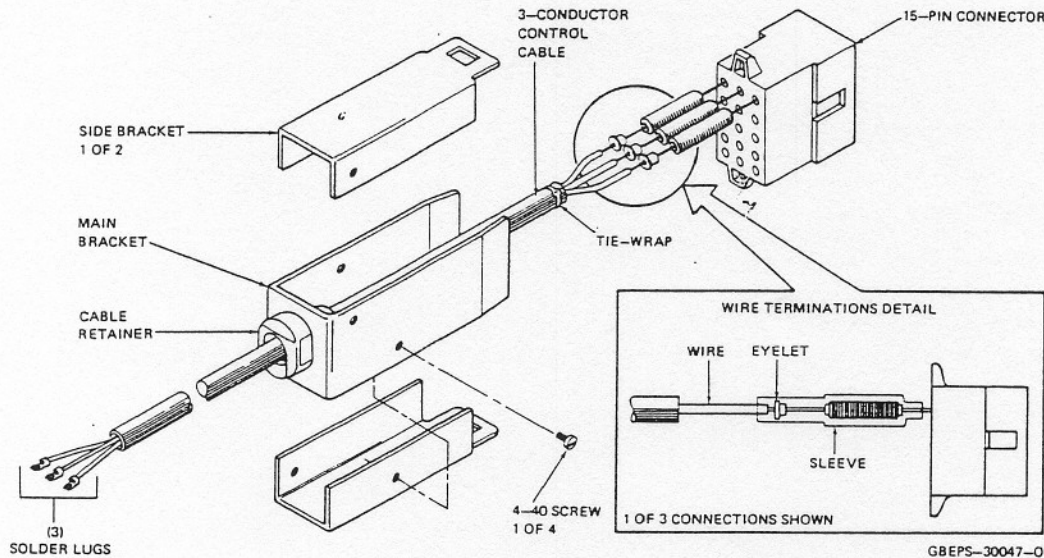
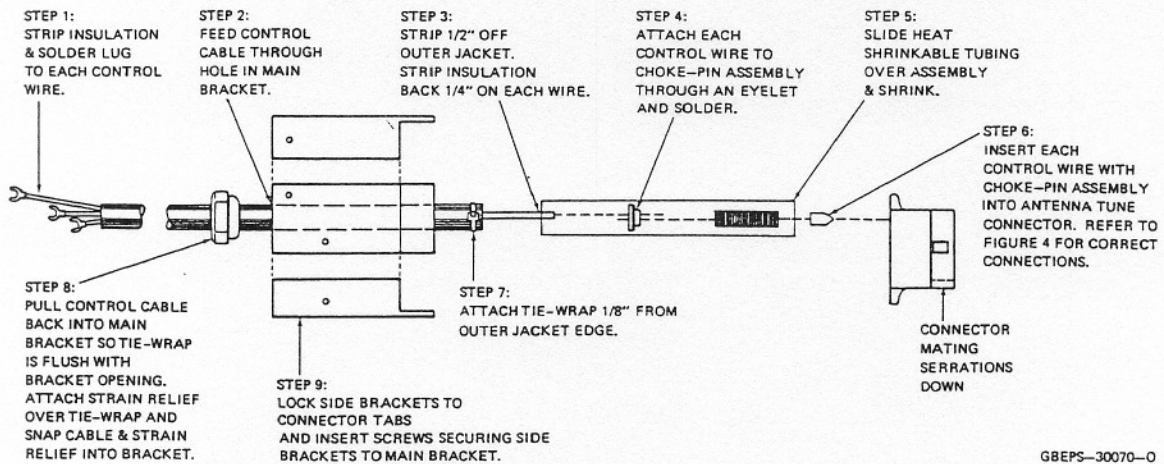

Figure 10. Control Cable Assembly
Figure 11. Control Cable Assembly Procedure
Step 1. Assemble the control cable as illustrated in Figure 10 and as directed in Figure 11.